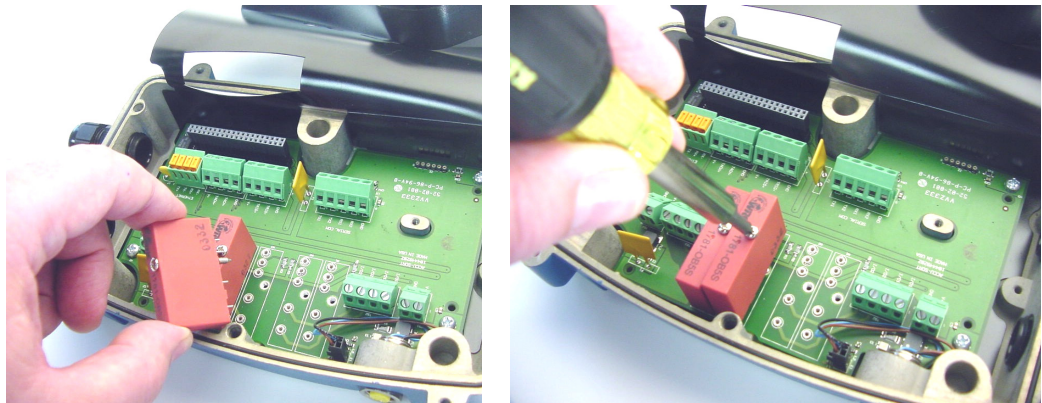

Figure 3-17: Installing an I/O Module
3. Plug the appropriate I/O module directly into the wiring base printed circuit board. (See Figure 3-17, left photo.)
4. Using a screwdriver, secure the I/O module by tightening the captive screw (that goes through the module) into the circuit board. DO NOT over-tighten screw. (See Figure 3-17, right photo.)